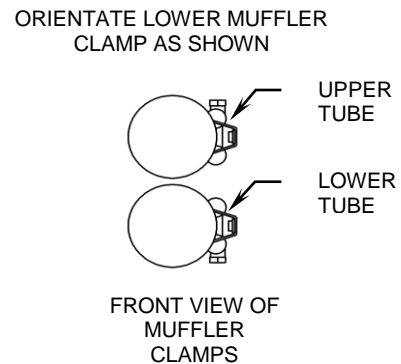

FIGURE 3
7. Remove the muffler assembly from the box and slide two supplied 27-61MSC clamps onto the back muffler tubes. Refer to Figure 3 for alignment.